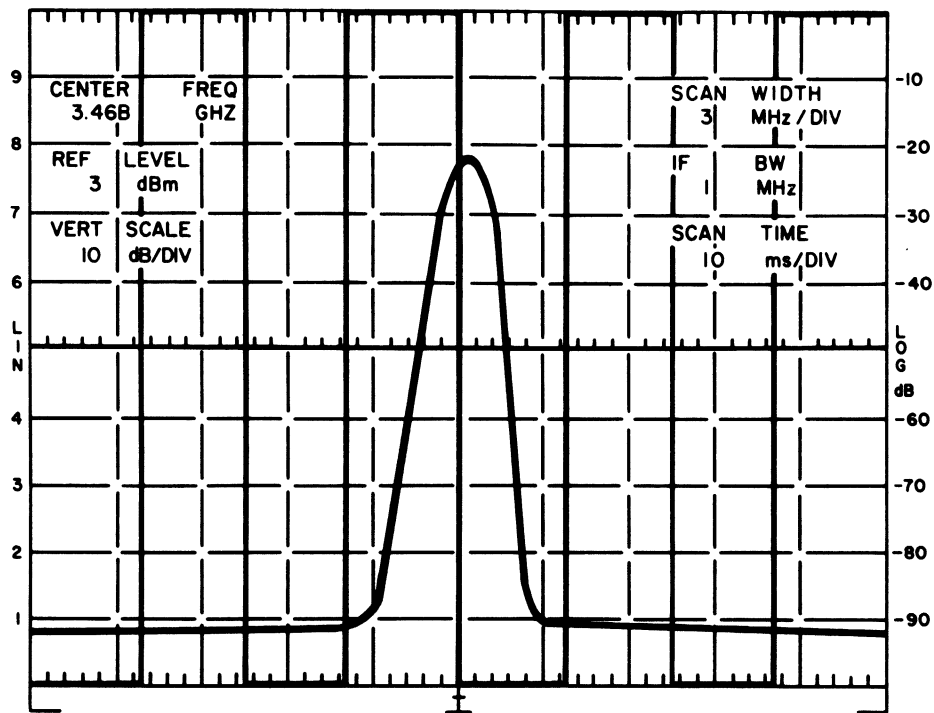

Figure 6-3. Test Waveform
**6-43. CRT CONTROLLER ALIGNMENT.** The following CRT controller alignment is to be performed when calibrating the 757 Spectrum Analyzer CRT Controller. Table 6-1 lists all the required adjustments along with their function and designation. Figure 6-3 is included to depict a properly